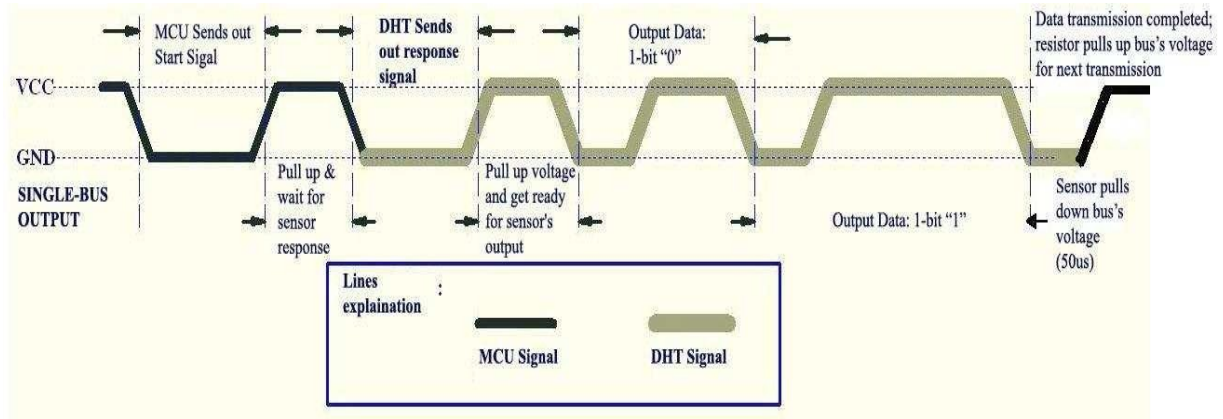

Figure 2 – Overall Communication Process.
5.1 Overall Communication Process (Figure 2, below)